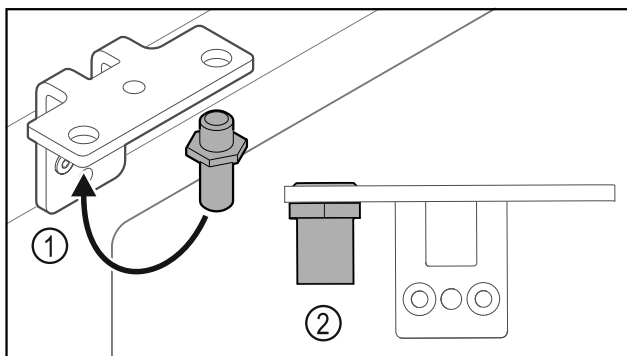

Fig. 20
- Put the pin back into the hinge Fig. 20 (1).
- Tighten the pin Fig. 20 (2) to a **torque of 12 Nm**.